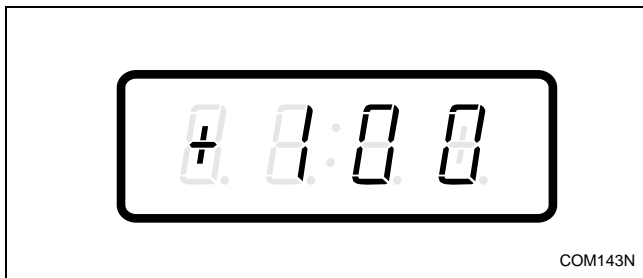

Figure 166
3. Press the DELICATES (+) or the COLD (-) keypad to scroll through the programmable options until “+100” appears in the VFD. Refer to *Figure 166*.